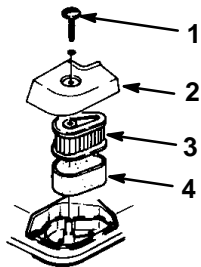

Figure 11
2. Remove the bolt securing the air cleaner cover (Fig. 11).
3. Remove the cover and clean it thoroughly (Fig. 11).
4. Remove the foam pre-cleaner and wash it with a mild detergent and water, then blot it dry (Fig. 11).
6. Remove the paper air filter and discard it (Fig. 11).